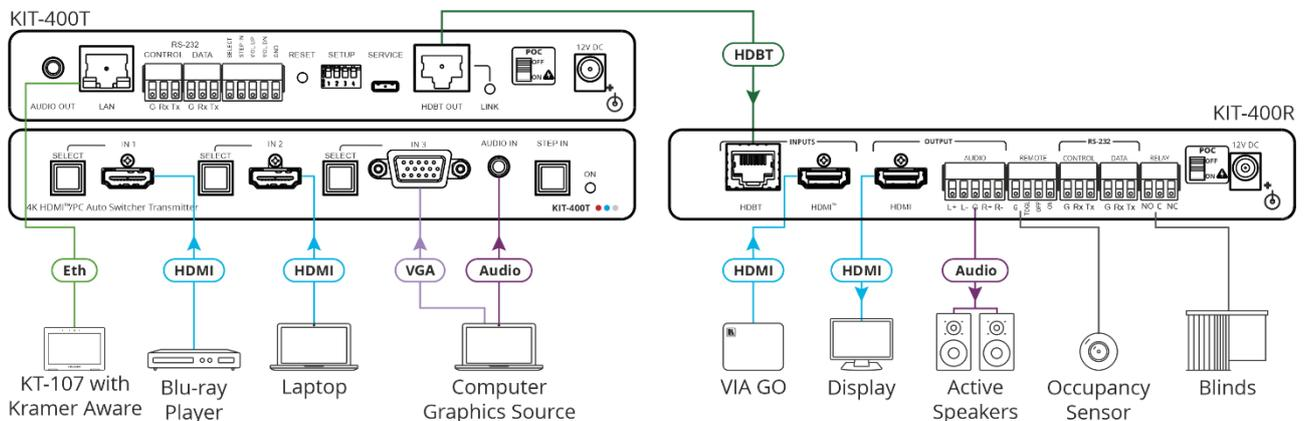

Figure 3: Connecting to the KIT-400
To connect **KIT-400** as illustrated in the example in Figure 3:
12. Connect the power adapter to one of the devices (KIT-400T or KIT-400R) and to the mains electricity (not shown in Figure 3).